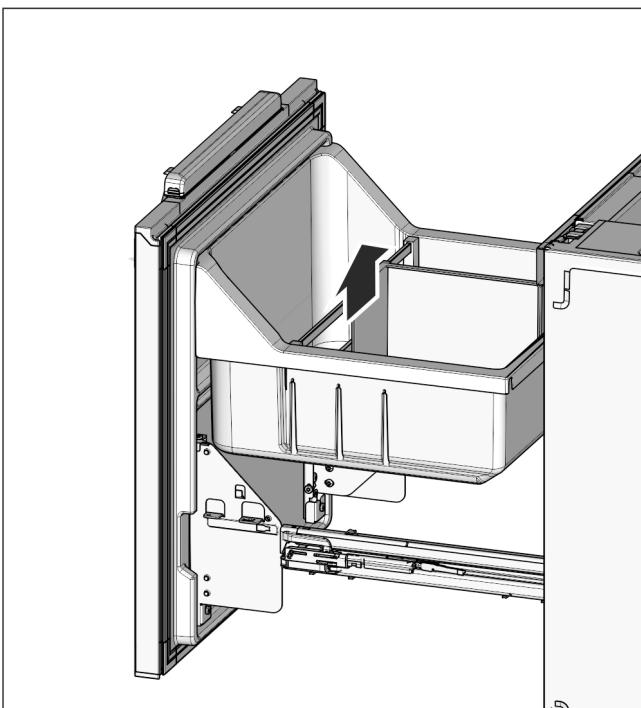

Fig. 29
- Reinsert the bottle shelf *Fig. 29 (32)* and the pull-out tray *Fig. 29 (31)*.